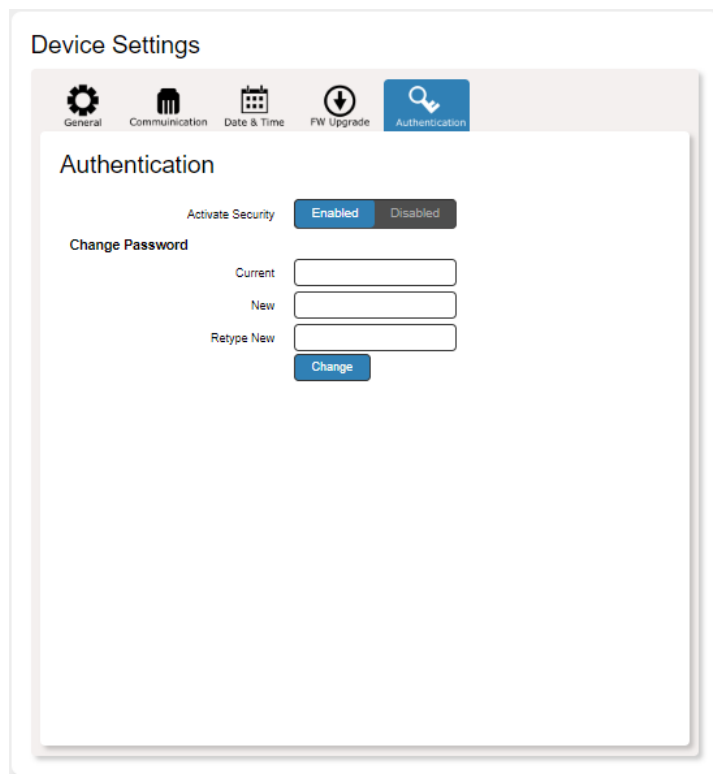

Figure 39: Authentication page – Security Enabled
1. In the Navigation pane, click **Device Settings** and select the **Authentication** tab. The Authentication page appears (see Figure 39).